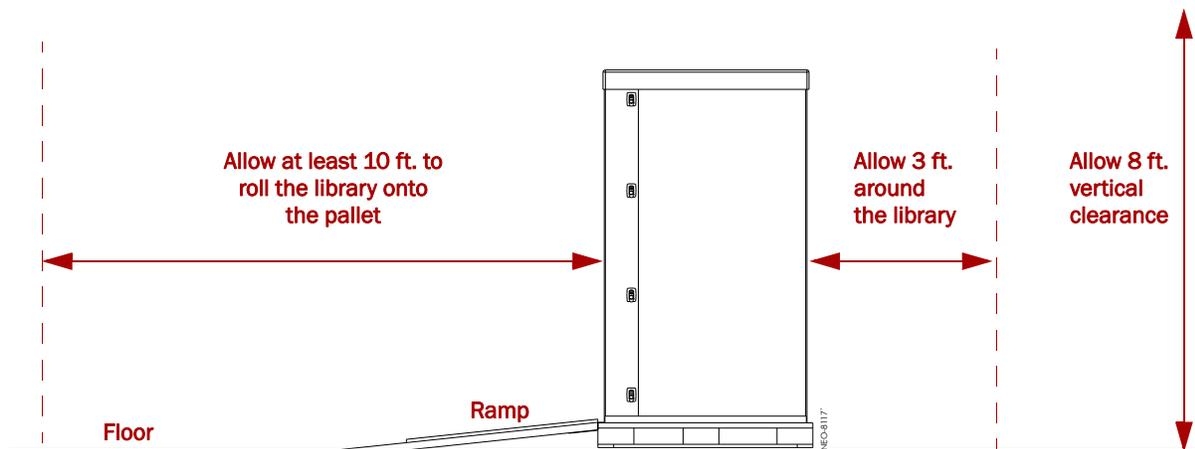

Figure B-1. Packing Space Requirements
8. **Position** the library on a level surface with enough clearance to work around it (Figure B-1).